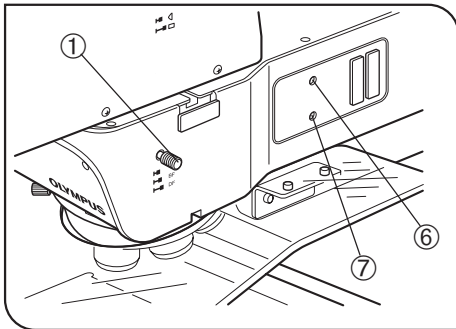
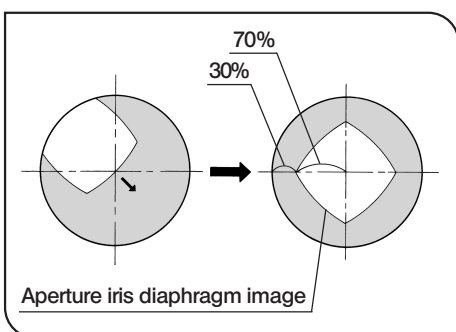

Fig. 31
Fig. 34
(Figs. 31 to 34)
1. Set the light path selector knob ① to "BF". (Fig. 31)
2. Press the objective switching button ③ or ④ (or switch the objective from the hand switch or computer), engage the 10X objective in the light path, and bring the specimen into approximate focus.
3. Remove the eyepiece and, while looking into the eyepiece sleeve, press the aperture iris diaphragm open/close button ⑤ so that the aperture iris diaphragm image is visible. (Fig. 34)
4. If the center of the aperture iris diaphragm is deviated, use the Allen screwdriver provided with the microscope to loosen (by 1 turn or 2) the aperture iris diaphragm clamping screw ②. Then insert the Allen screwdriver into the aperture iris diaphragm centering screws ⑥⑦ and turn the screws to center it.
5. Tighten the aperture iris diaphragm clamping screw ②.